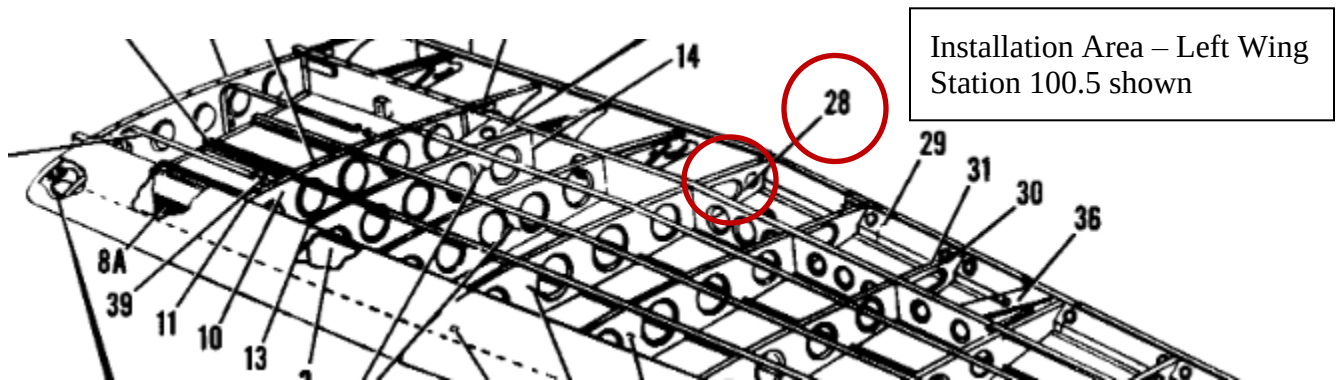

FIGURE 3-7 WS 100.5 SERVO MOUNT RIB LOCATION
4. Remove (10) fasteners that secure the bottom empennage access panel as shown in Figure 3-7.